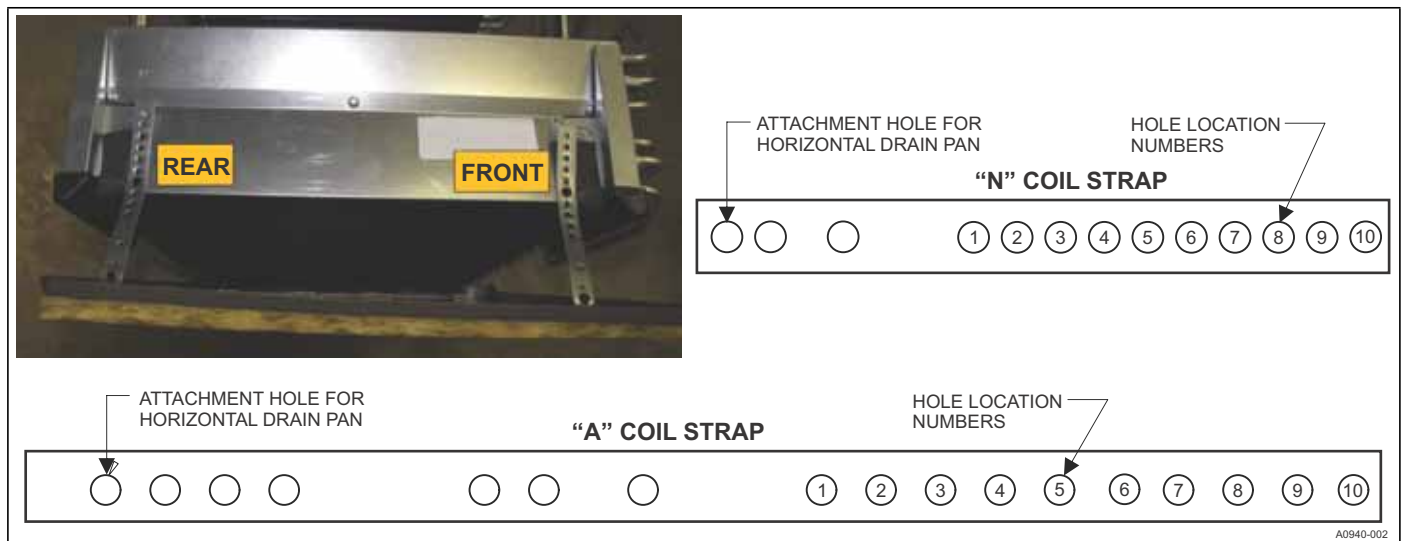

FIGURE 14: Horizontal Pan Adjustment Strap Hole Reference
For horizontal left applications, high airflow can prevent the collected condensate from draining properly since the direction of the airflow opposes the direction of the draining condensate. The horizontal pan must be angled properly in order to ensure proper drainage in high airflow applications. Ensure that the pan is angled properly by checking that the correct hole is used on the pan straps per TABLE 14. Use FIGURE 14 to identify the FRONT and REAR straps since, in some cases, these settings are not the same.
- Remove grommets where tubes exit the cabinet to prevent burning them during brazing. In some units, the vapor line grommet may be shipped as a loose part with the unit. Refer to Figure 14.